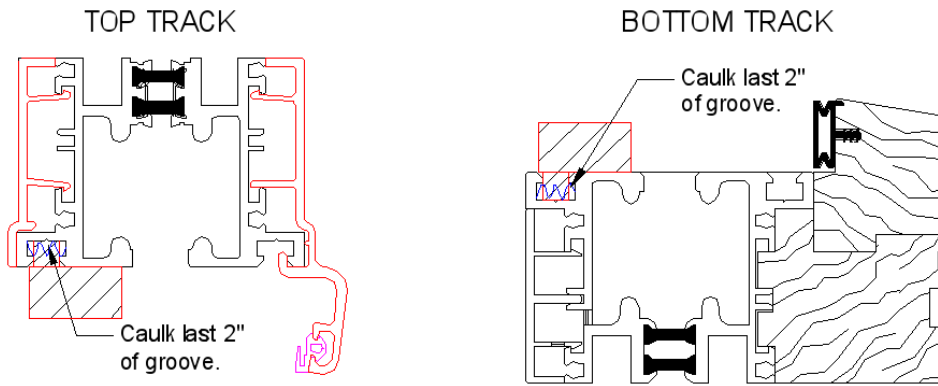

FIG 3.
- Caulk ends of both jambs as shown in Fig's 1 thru 3 depicted by squiggly lines. (FIG 3 on next page) Pre screw in 2 (#10 x 4" FH RB Screw) into top and bottom pre-drilled holes on both jambs for ease of installation.
- c) Caulk the last 2" of the outside groove of both top and bottom tracks before inserting jambs, as shown in FIG 3.
- d) Each jamb has a jamb insert top and bottom; these will be inserted to the outer groove of the top and bottom track. (See FIG. 3)